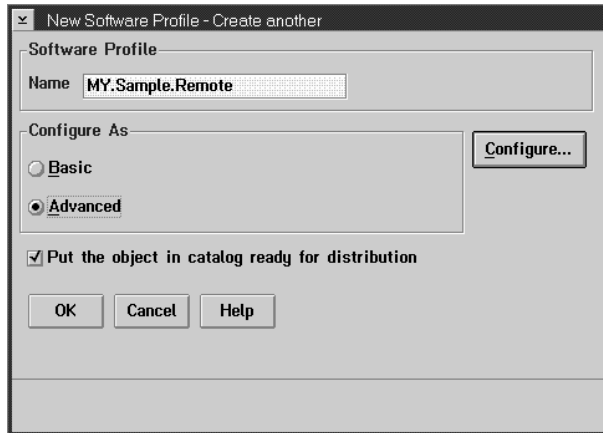

Figure 81. New software profile window
- 13 Close the notebook. The New Software Profile window is displayed again, as shown in Figure 81 on page 171.